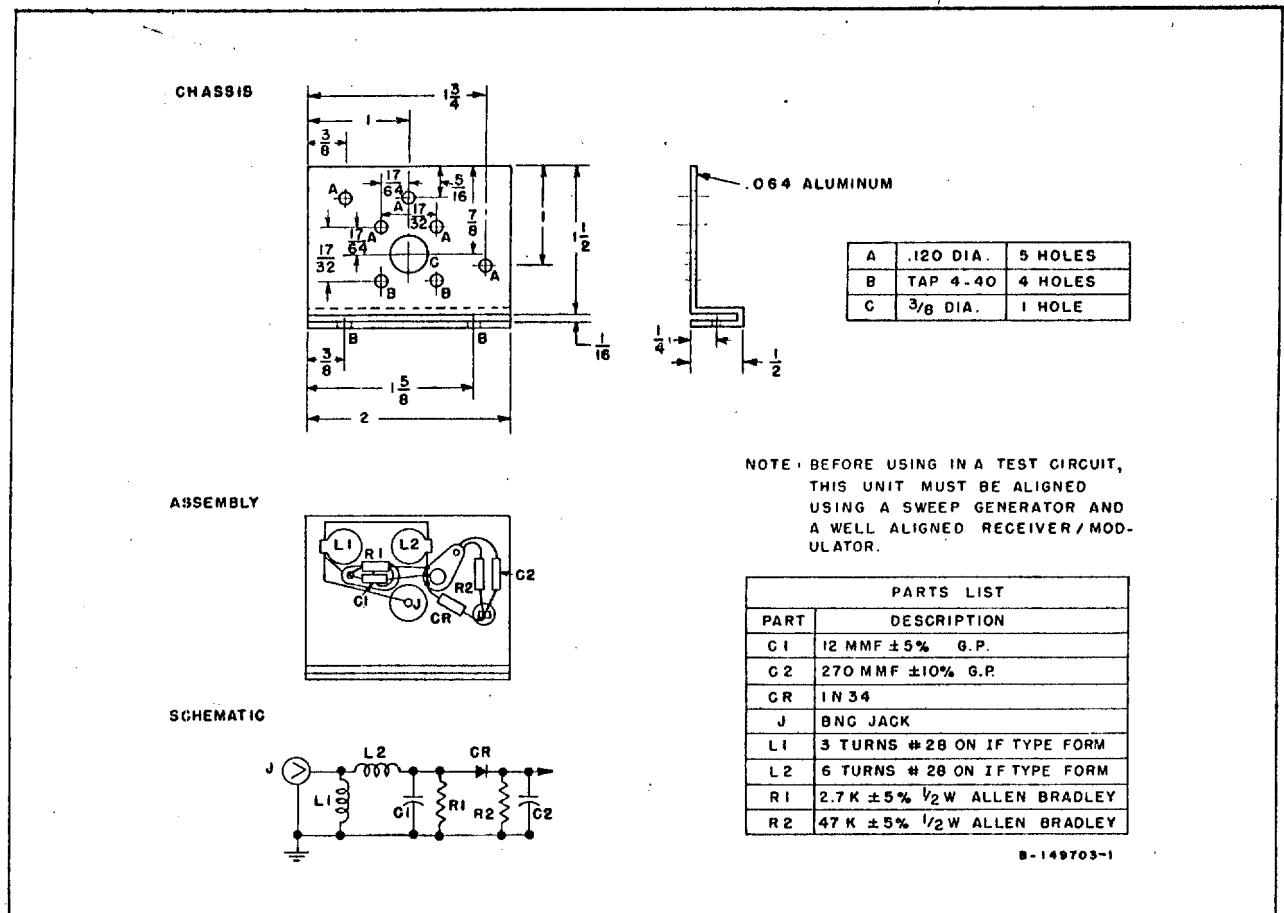

Figure RM-7—70 mc Dummy Load
a. Connect the "70 MC OUTPUT" of the receiver/modulator to the 70 mc jack of test equipment item 27(f) (see figure RM-7) using the 70 mc coaxial cable that is normally connected to the Transmitter "70 MC INPUT." (No other cable